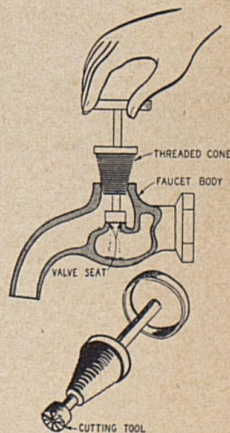

Fig. 63
- c. Insert cutting tool in faucet. Fig. 63.
- d. Screw threaded cone into body of faucet. Fig. 63.
- e. Rotate cutting tool in clockwise direction until valve seat is smooth. Fig. 63.